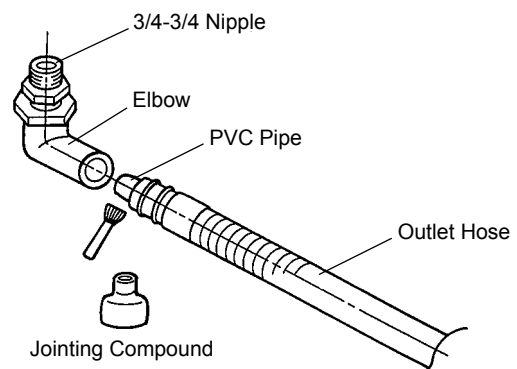

Fig. 7
- 5) Use a pipe jointing compound (for PVC) to joint the outlet hose with PVC pipe (accessory) to the elbow as indicated (Fig. 7). The pipe can be cut to length as necessary to suit position of main drain.